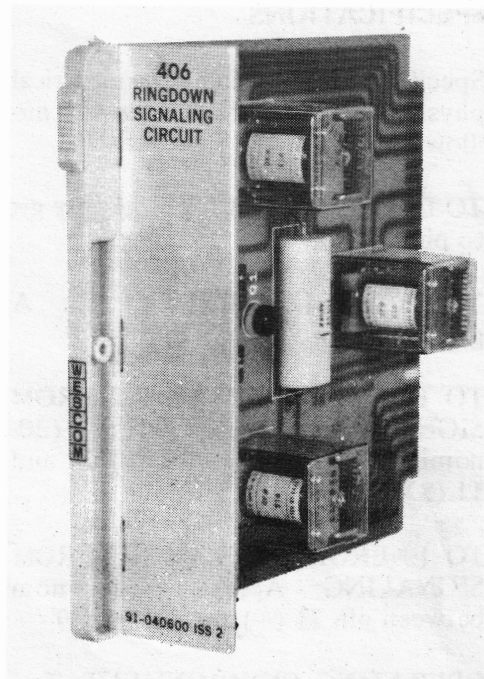

Figure 1. 406 Ringdown Signaling Circuit Module
1.02 The 406 Module (Figure 1) is a plug-in, printed-circuit module which responds to AC or polarized 48Vdc ringing signals, received via the simplex leads of the Wescom 401 Line Amplifier or other line terminating device, by producing audible or visual signals to indicate an incoming call. The 406 module, used with the Wescom 850 or 851 Ringing Generators, also provides outgoing signaling over the line.